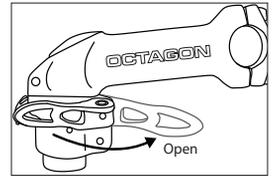

Fig. 48: Open quick release lever.
1. Open the collar quick release lever (Fig. 48).